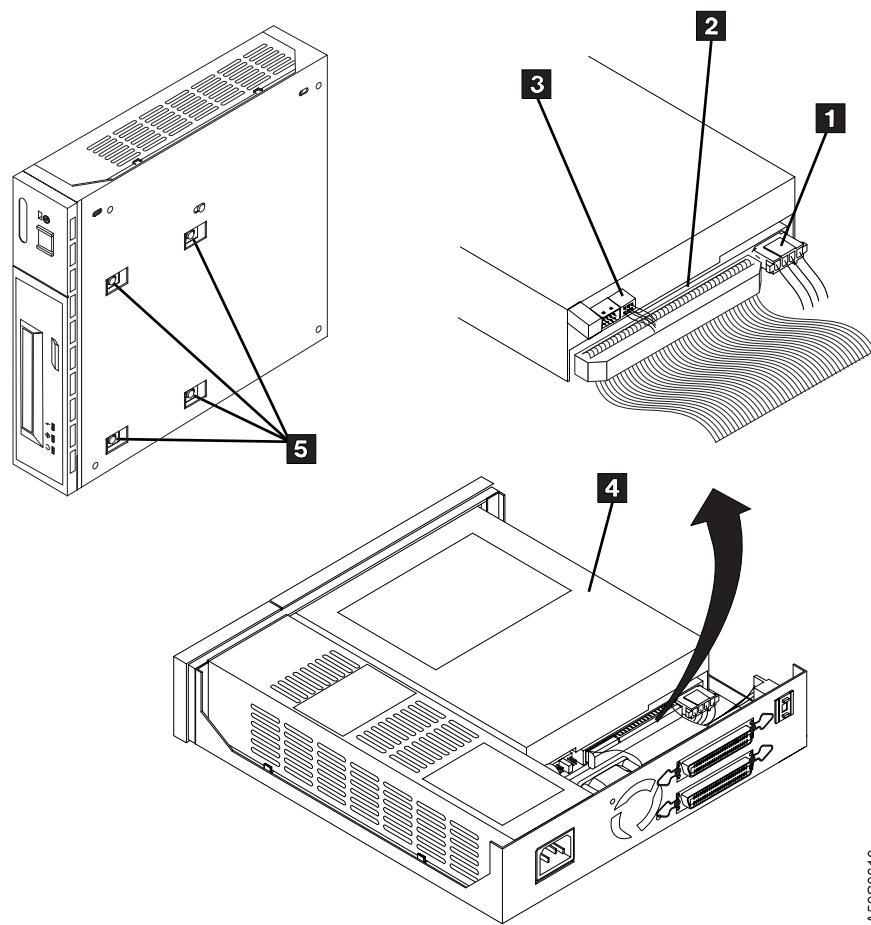

Figure 14. Removing and Replacing the Drive
2. Disconnect the power supply connector (J1) ( **1** in Figure 14) from the drive.
5. Tilt the 7206 Tape Drive on its side (see Figure 14). Support the drive **4** while removing the four screws **5** that secure the drive to the chassis.